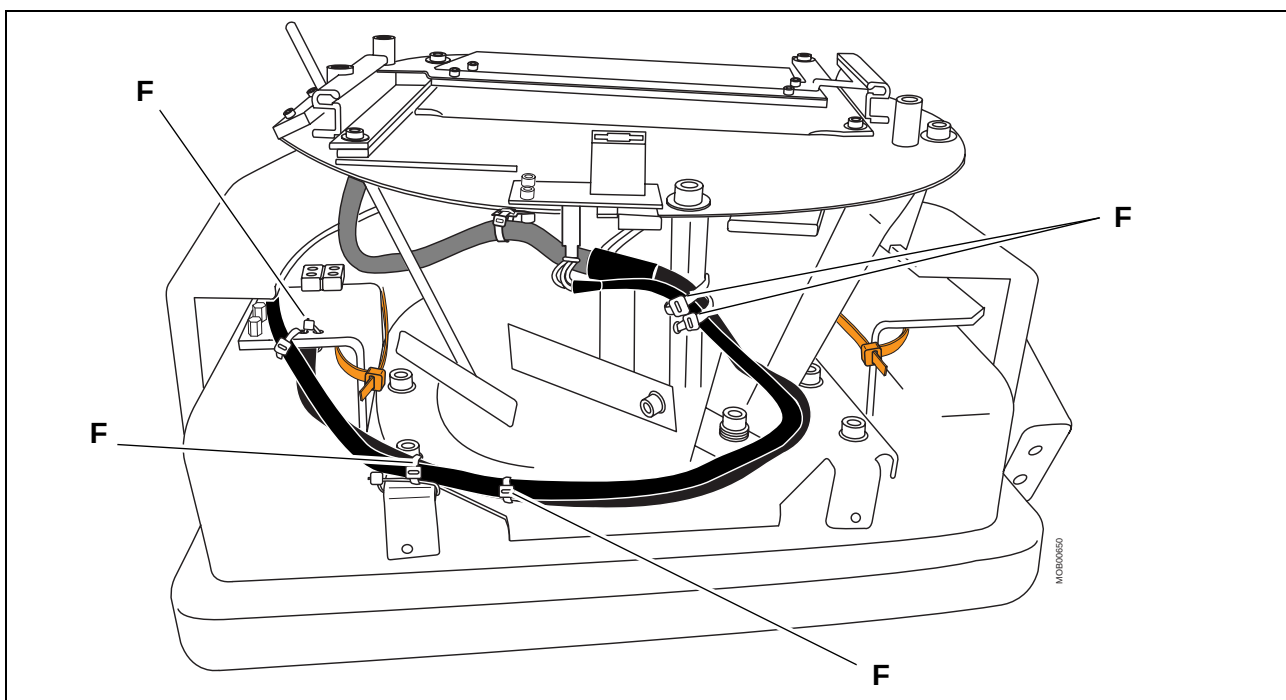

Fig. 9
- Remove the five cable ties according to "F" (Fig. 9).
- Replace the five cable ties shown in Fig. 9. Make sure they are fastened exactly as shown in the figure.